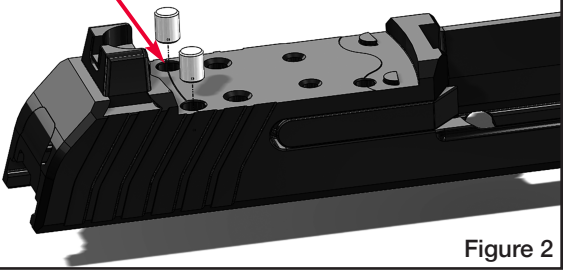

Figure 2
3. The **MAX-9®** pistol shipped with an envelope containing two metal dowel pins. Locate the pins and, using tweezers or needle-nose pliers, install the two dowel pins into the rearmost holes in the slide as shown in Figure 2. The pins will be a slip fit and will drop freely into the holes when lined up properly. In the event you want to remove the READYDOT™, the pins can remain in their locating holes and the optics plate cover can then be re-installed.